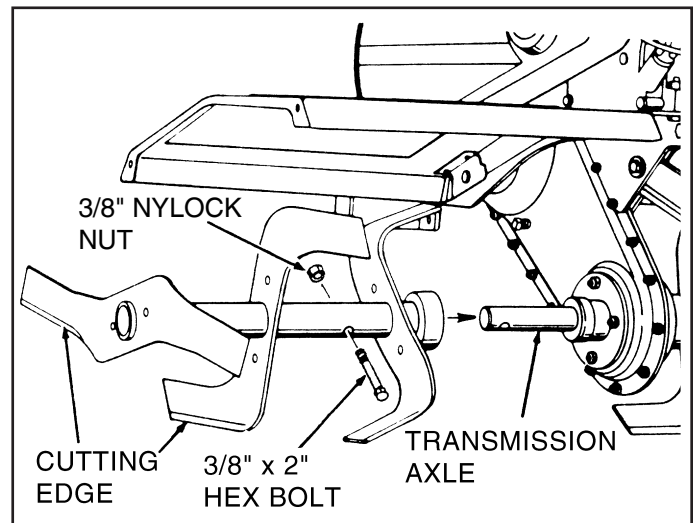

FIG. 3
- Remove the preassembled 3/8" x 2" hex bolt and 3/8" nylock nut from the L.H. Tine Assembly. Slide the tine assembly onto the Transmission Axle on the left side of the tiller and secure with the hex bolt and nylock nut. (See fig. 3.) Repeat for the R.H. side.